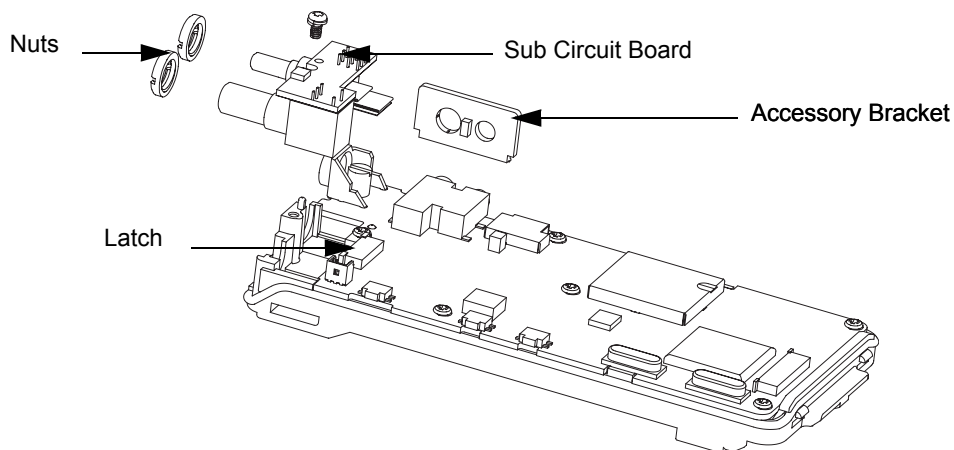

Figure 6-8. Sub-Circuit Board and Accessory Bracket Removal
1. Remove the Accessory Bracket (35).
2. Remove the nut (17) on the On/Off Volume Knob Shaft and Channel Knob Shaft with the Crab Eye Nut Opener.
3. Remove the screw holding the Sub Circuit Board (16) to the Chassis (27) with a Phillips screwdriver.
4. Push the latches on the Main Circuit Board (19) to release the Flexible Cable (39) from the connector.
5. Remove the Sub Circuit Board from the Chassis. (Refer Figure 6-8).